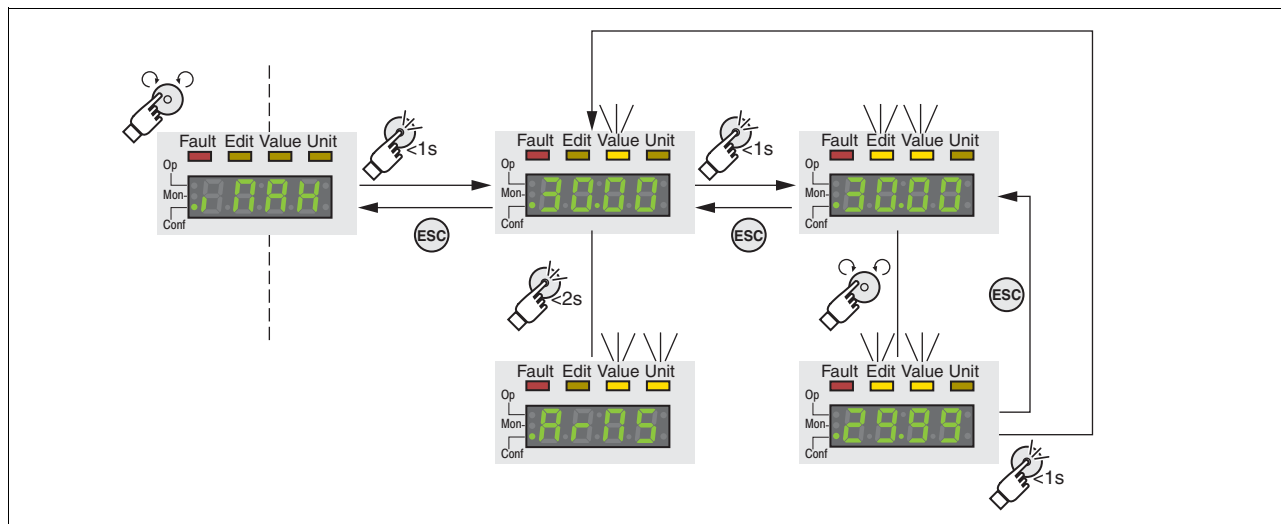

Figure 7.5 Integrated HMI, example of setting a parameter
- The parameter , *iMax* (iMax) is shown on the 7-segment display, see Figure 7.5.